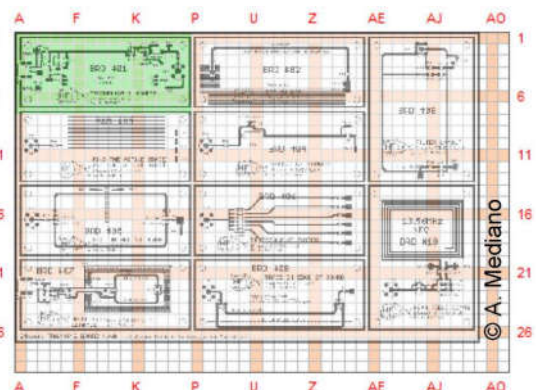

Figure 6 BRD#01 spectral probes
- Now focus on a specific frequency based on the spectrum and run a spatial scan. In the Spatial Scan Probes settings select the entire BRD#01 as shown in Figure 6. Zoom in the board by selecting the region of interest. Can you identify the current paths? (A good tool to spatially visualize the noise is the 3D View! You press ctrl and scroll up and down with them mouse). Write down the scale of the noise on the right of the spatial plot.